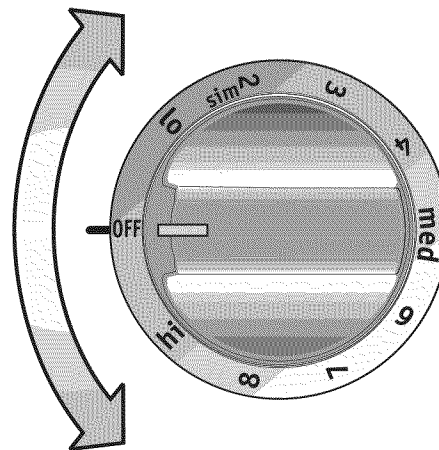

Figure 1 -Control knob shown is typical only.
2. Push in and turn the surface control knob in either direction to the desired setting (Figure 1).